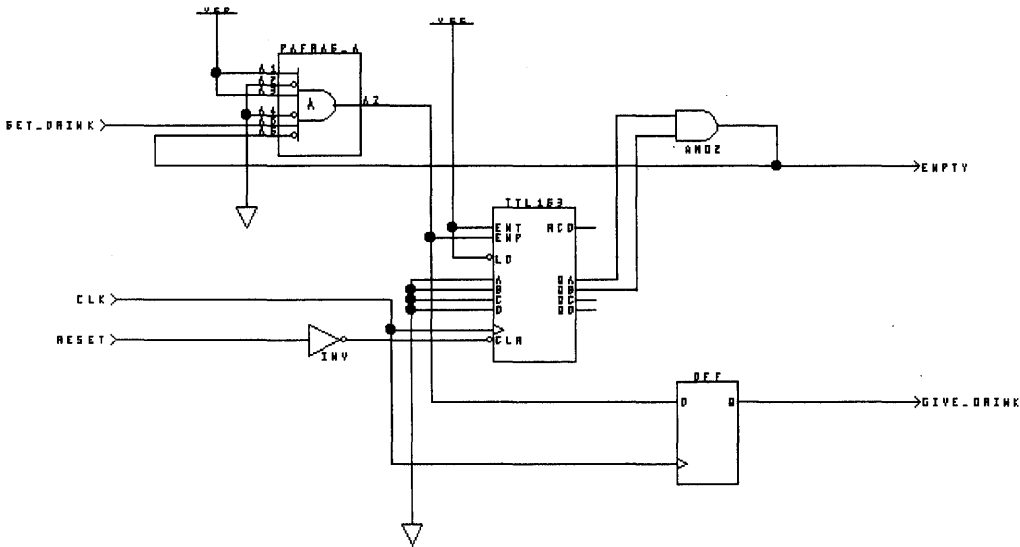

Figure 4-1. Modified BINCTR Schematic.
3. Insert a PAFRAG_A component from the MCPARTS library. Connect the GET_DRINK input to pin A5 of the PAFRAG_A component. Tie pins A1 and A3 of the PAFRAG_A to Vcc. Tie pins A2 and A4 of the PAFRAG_A to GND. Connect pin A6 to the output of the AND2 component in the upper right quarter of the schematic. The result should look like Figure 4-1.